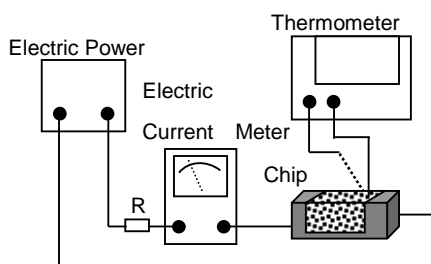

Fig. 5.3.5-1
- Definition of Rated Current( $I_r$ ):  $I_r$  is direct electric current as chip surface temperature rose just  $20^{\circ}\text{C}$  against chip initial surface temperature( $T_a$ ) (see **Fig. 5.3.5-2**).